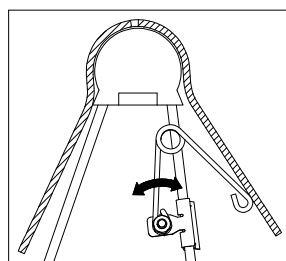

Figure E2: Cutaway view of driver side pivot arm and saddle.
2. Adjust the resting angle of your coupler plate by rotating the spring on the driver side pivot arm. Pulling the top of the spring away from the cab will increase the angle of the coupler plate. Set the angle of the coupler so that head will tilt away from the cab when coupling, see figure E2. Tighten the 1/4" nut once the springs orientation is set.